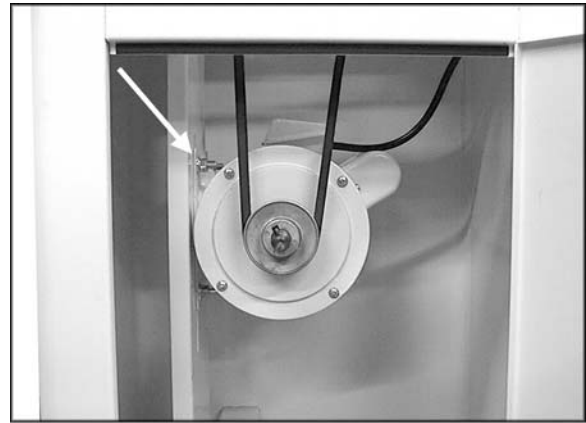

Figure 15
8. Loosen the nuts on the four motor mounting bolts (Figure 15) and tension the v-belt by pushing down on the motor. Tighten the four motor mounting nuts.